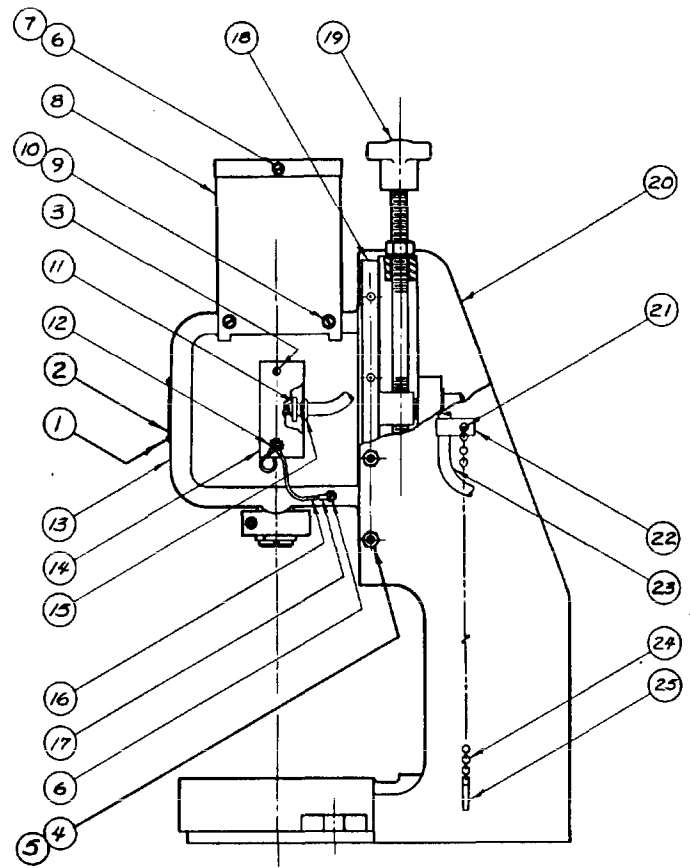

Figure 3.
1. Loosen the two large cap screws (fig. 2, #17) that are holding the yoke clamp (fig. 2, #15). Next, loosen the four set screws (fig. 3, #4) on the right side of the frame which hold the gib (fig. 3, #18) in position. **Caution** - Excessive loosening will result in the gib falling out.
2. Position the head for easy access to the spindle. This is accomplished by using the hand-wheel on the elevating screw assembly (fig. 3, #19).
3. Install and lock tool in spindle. Pull spindle down and insert taper pin (fig. 3, #25) in hole provided. Insert workpiece in nest. Lower head until the tool engages the workpiece.
The spindle bearing should be cleaned and lubricated every few days with four or five drops of oil furnished with each machine. Remove the guard cover (fig. 3, #8) to find oil hole.